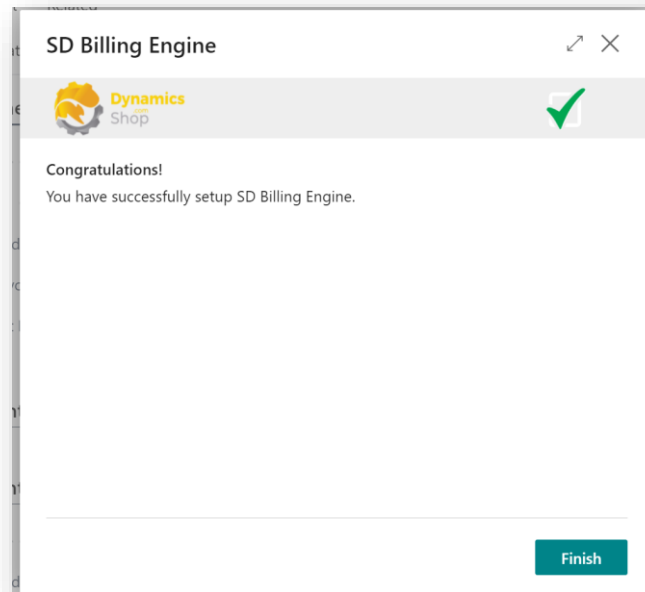

Figure 6-7
7. Choose **Finish** (Figure 6-7).